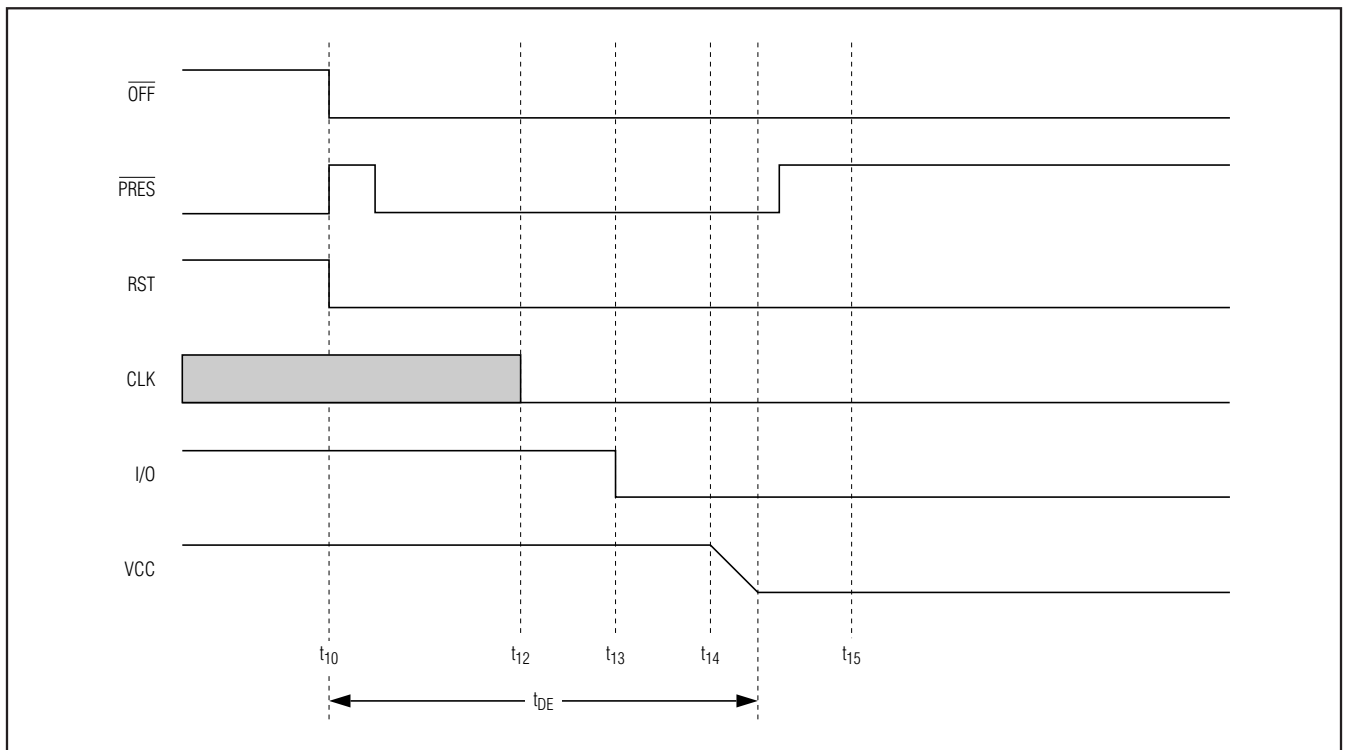

Figure 7. Emergency Deactivation Sequence (Card Extraction)
- **CMDVCC Low Within a Card Session.** Output $\overline{\text{OFF}}$ goes low when a fault condition is detected, and an emergency deactivation is performed automatically (Figure 7). When the system controller resets CMDVCC to high, it may sense the $\overline{\text{OFF}}$ level again after completing the deactivation sequence. This distinguishes between a card extraction and a hardware problem ($\overline{\text{OFF}}$ goes high again if a card is present). Depending on the connector's card-present switch (normally closed or normally open) and the mechanical characteristics of the switch, bouncing can occur on the PRES signals at card insertion or withdrawal.